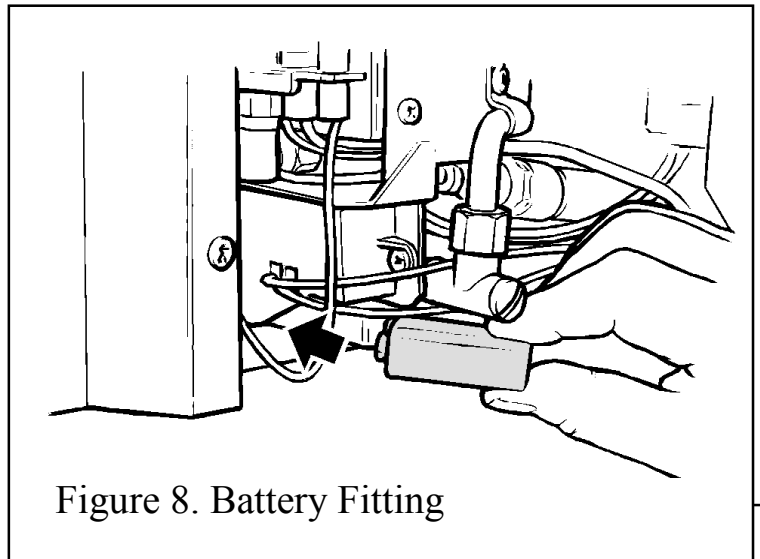

Figure 8. Battery Fitting
- Fit the battery to the ignition block located below the burner tray at the left side (see figure 8). The positive terminal (+) is to the right as you insert.